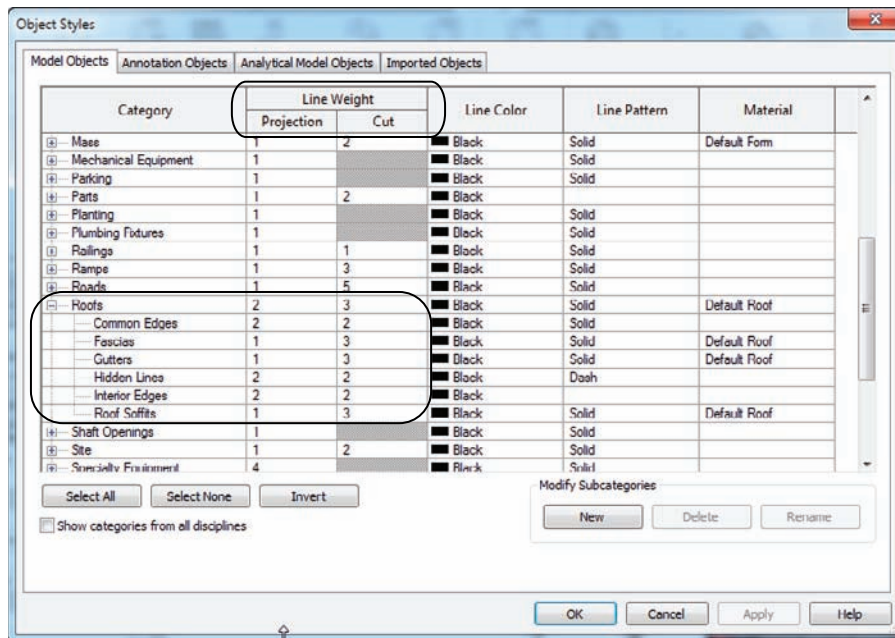

FIGURE 12.2 Changing the object line weights
3. In the Object Styles dialog is a list of every object category available in Revit. The first items you want to change are the roofs. In the Category column, scroll down until you see Roofs, as shown in Figure 12.2.
4. In the Roofs row, change the Cut value to 3, as shown in Figure 12.2.
8. Change the Cut value for Roof Soffits to 3 (again, see Figure 12.2).